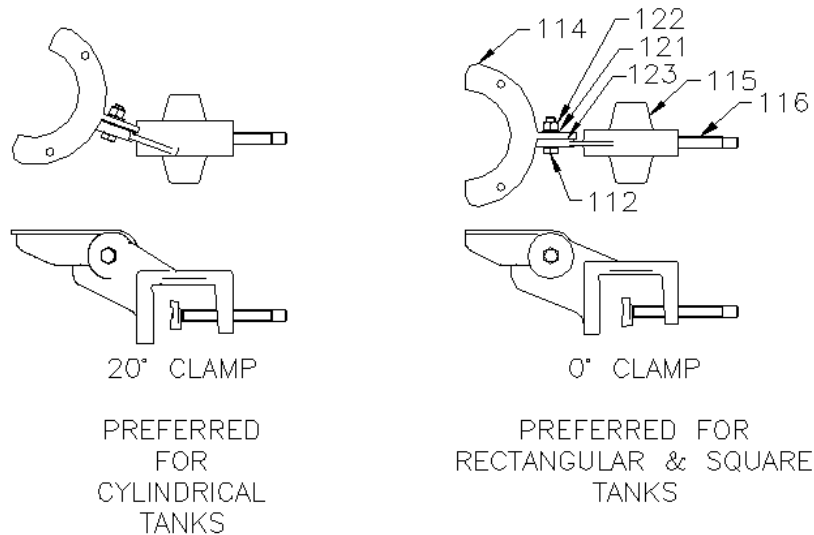

FIGURE 2
2.3 "P" Units - Clamp Mounting Module - The clamps are cast offset at recommended 20° horizontal plane and adjustable 0-10° in the vertical plane. Clamps are also available with zero degree offset in the horizontal plane and adjustable 0-10° in the vertical plane. The clamp assembly (115) is fastened by hex head cap screw (112), flat washer (121), and hex nut (122) to the yoke (114). There is an anti-rotation insert (123) between the pivoting faces of the yoke (114) and clamp assembly (115). Refer to Figure 2. The yoke is bolted directly to the mixer housing module with two hex head cap screws (113).